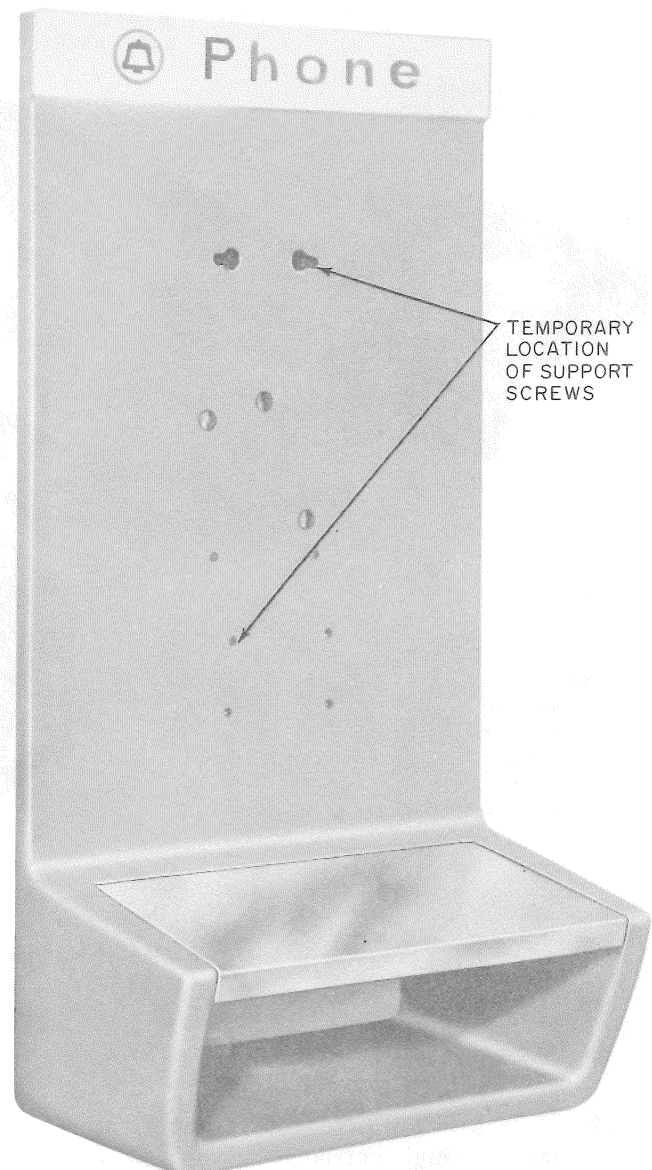

Fig. 5—KS-19945, List 14 Coin Telephone Shelf
3.02 Install one 1/4-20 by 5/8 RHM screw (furnished with coin telephone set) in the top right tapped hole in the backboard. Do not tighten screw. Utilizing the top right keyhole slot (Fig. 5), hang the shelf on this screw and align the shelf to fasten 1/4-20 by 5/8 RHM screw in one lower tapped hole in backboard. Adjust the shelf to line up the remaining coin telephone mounting holes and tighten screws.
Security studs must be used. They will go through shelf and backboard (Fig. 5).